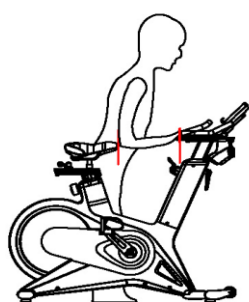

Figure 5
- 2) Adjust the height of the handle so that the lowest part of the handle is at the same height as the saddle. As shown in Figure 5.